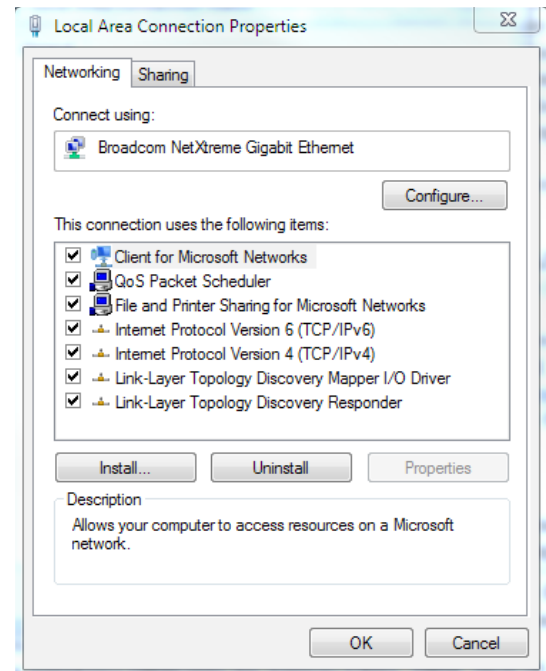

Fig. 2-32, Local Area Connection Properties Screen, Windows 7
6. You will see a dialog box much like Fig. 2-32; click **Internet Protocol (TCP/IPv4)** and then click the **Properties** button.